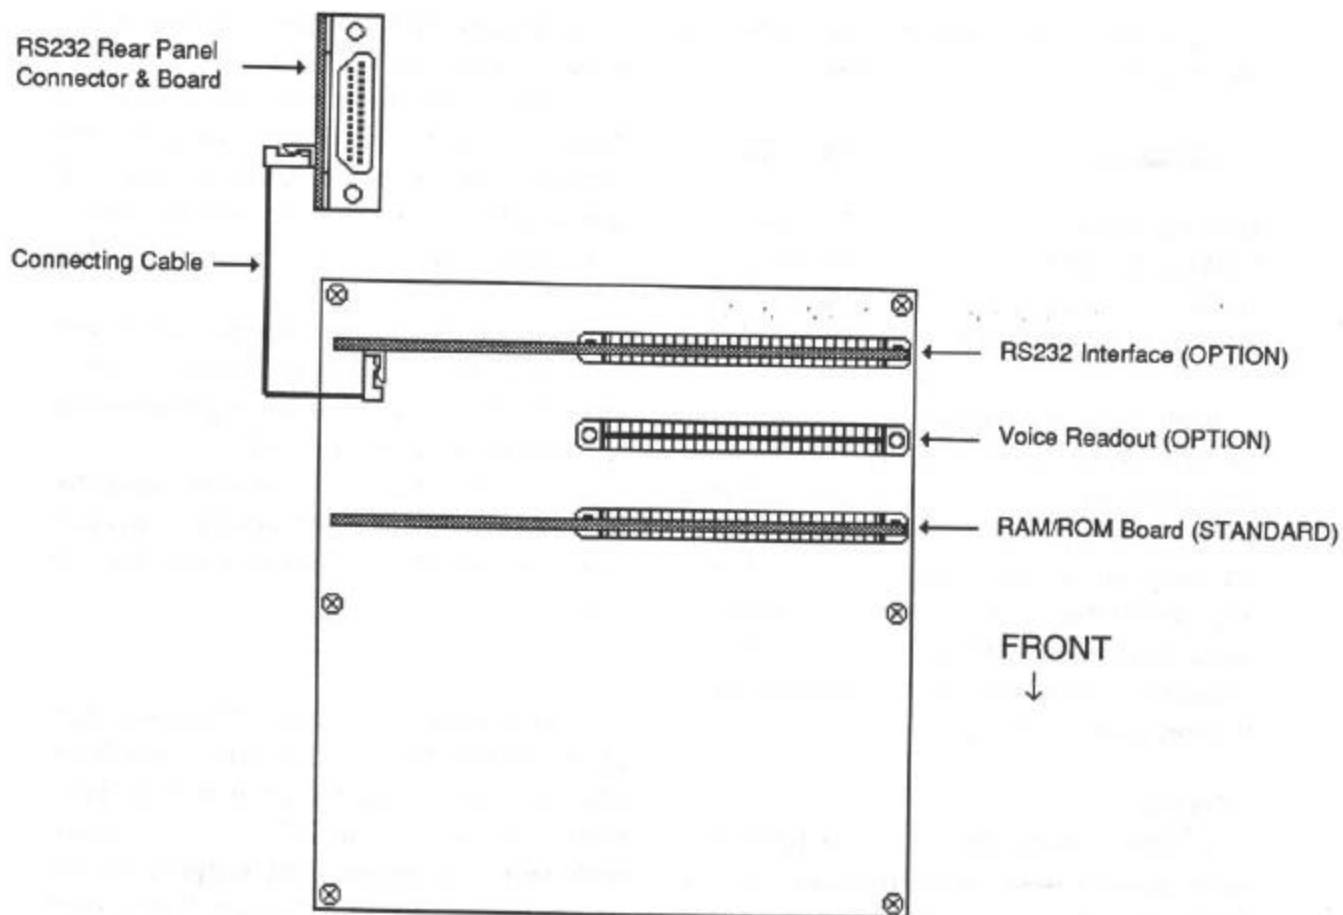

FIGURE 5-3. OPTIONS INSTALLATION DIAGRAM
4. REMOVE PLUG-IN BOARDS Refer to FIGURE 5-3 and carefully remove the 81360 RAM/ROM Board and also the 81363 Voice Readout Board (if installed) and set them aside.
5. INSTALL RS232 INTERFACE Remove the 81363 RS232 Interface PC Board and the #98161 Eprom I.C. from the electrically conductive bag. Set the Eprom I.C. aside for later installation. Referring to FIGURE 5-3, carefully slide the PC Board down the card guides and plug it into the Main Logic Board at the location shown.